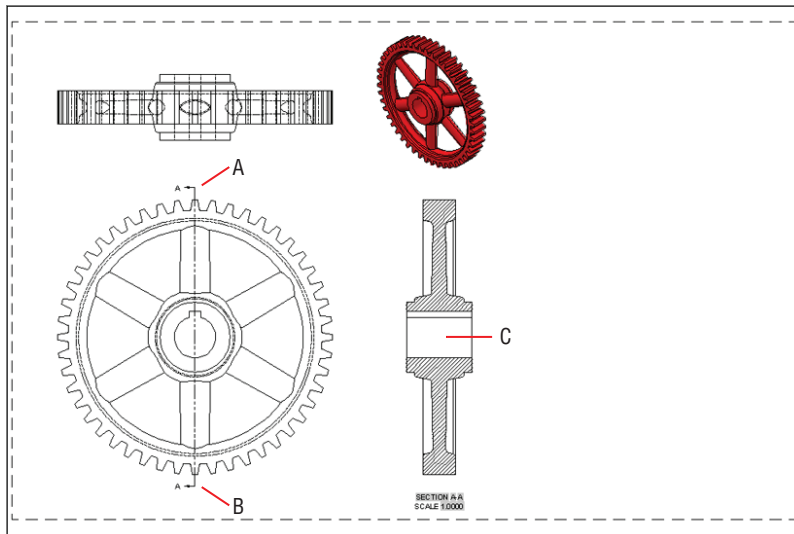

FIGURE 18.24 Creating a section of the base view
- Click the original plan view you created in the lower left of the layout and press Enter. Click points A and B shown in Figure 18.24 to draw a section cut line and press Enter. Click point C to locate the section view, and press Enter twice to end the VIEWSECTION command.